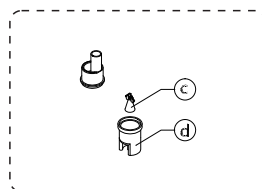

Fig.9.2.5
- The nebulizer panel should be placed at right position as showed in this picture. See Figure 9.2.5